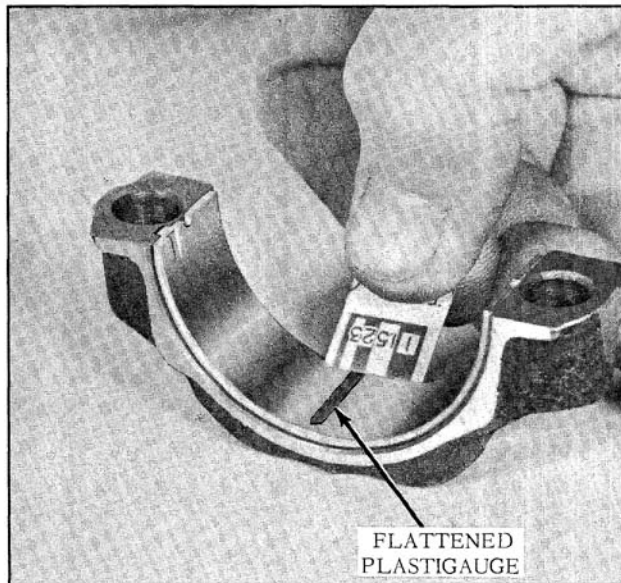

Fig. 3-78 Checking Oil Clearance
8. Remove bearing cap and determine bearing clearances by comparing the width of the flattened plastigauge at its widest point with the graduation on the plastigauge container. The number within the graduation on the envelope indicates the clearance in thousandths of an inch. (Fig. 3-78) If this clearance is greater than .0035", replace the bearing and recheck clearance with plastigauge.